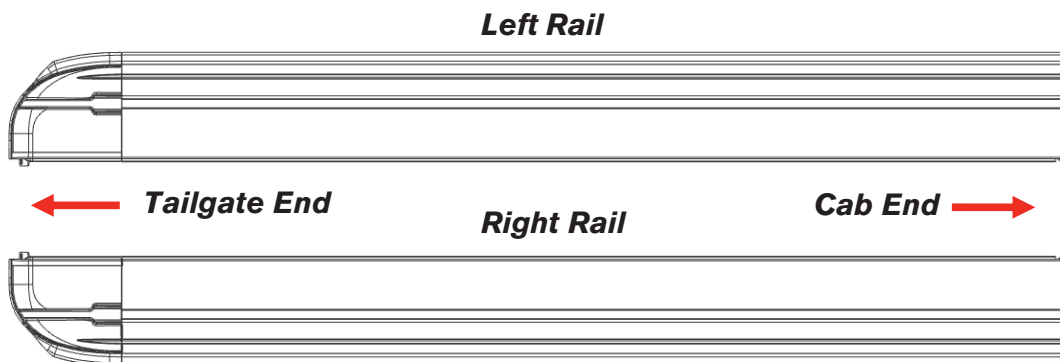

FIG. 5A
- Next identify the left and right side rails (FIG 5A). The rail flange and foam towards the outside of the truck bed.